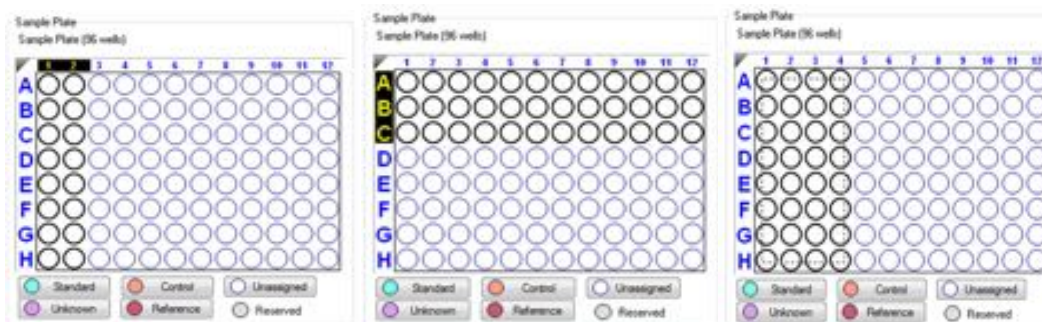

Figure 6-3: Selecting Wells in the Sample Plate Map
- Click a column header or select adjacent column headers by click-hold-drag (Figure 6-3 left). To select non-adjacent columns, hold the **Ctrl** key and click the column header.
- Click a row header or select adjacent row headers by click-hold-drag (Figure 6-3, center).
- Click a well or draw a box around a group of wells (Figure 6-3, right).
2. Click the **Standard** button below the **Sample Plate Map** (see Figure 6-3), or right-click and select **Standard**.